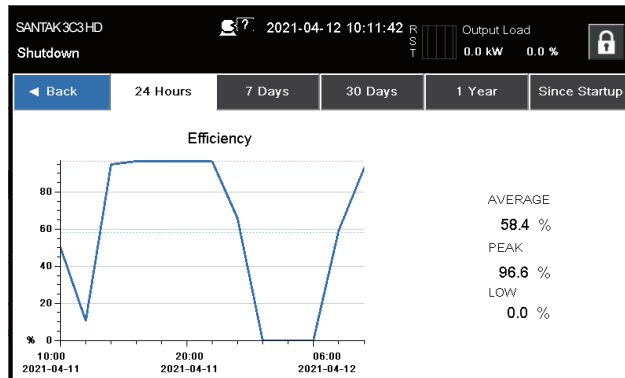
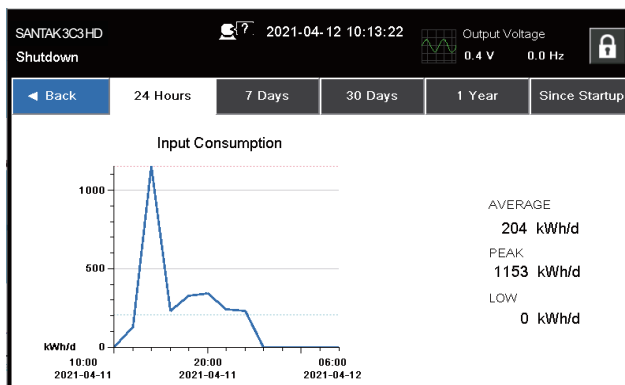

Figure 6-7: Average Efficiency Screen from Home Screen
Figure 6-8: Consumption Screen from Home Screen
- ③ See Figure 6-7 Average Efficiency Screen from Home Screen
- ④ See Figure 6-8 Consumption Screen from Home Screen
- ⑤ Schematic diagram showing the flow of electric energy
Touching the AVERAGE EFFICIENCY button displays the system efficiency screen shown in Figure 6-7.
Touching the CONSUMPTION button displays the screen shown in Figure 6-8.
- ① See Figure 6-7 Average Efficiency Screen ② See Figure 6-8 Consumption Screen from Home Screen